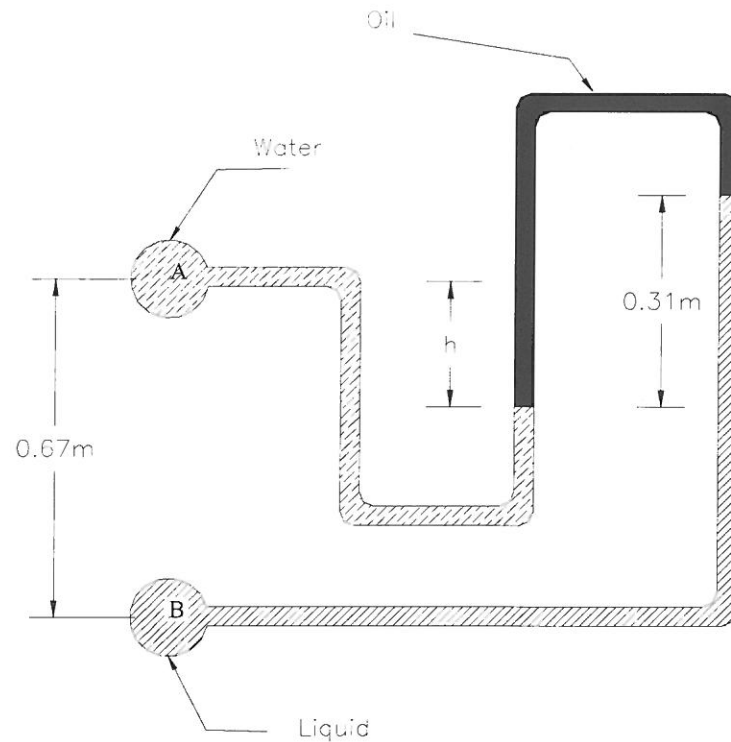

Fig. 2.1
2.2 Given below (**Fig. 2.1**), is an inverted compound manometer tube with a pressure difference between pipes A and B equal to 7.48 kPa, ($P_B - P_A = 7.48 \text{ kPa}$). Pipe A carries freshwater. Vertically below it is another pipe B which carries a liquid with density of 1039 kg/m^3 . Given that the specific weight of the oil is 7.85 kN/m^3 , calculate the manometer liquid rise h in cm. (7)